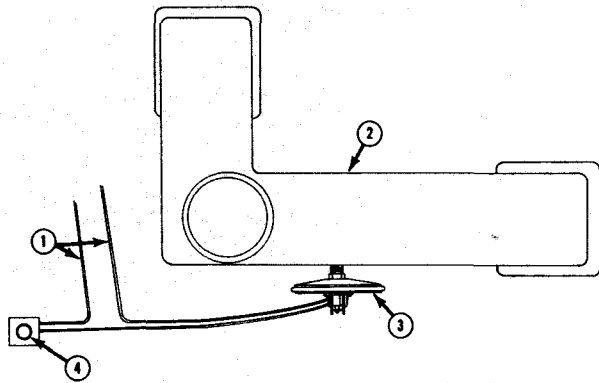

Fig. 2-15, (V11010). Vacuum switch to check air inlet restriction
1. Electric source (1, Fig. 2-15).
2. Air piping with fitting for switch (2).
3. Vacuum switch (3).
4. Red indicator light (4).